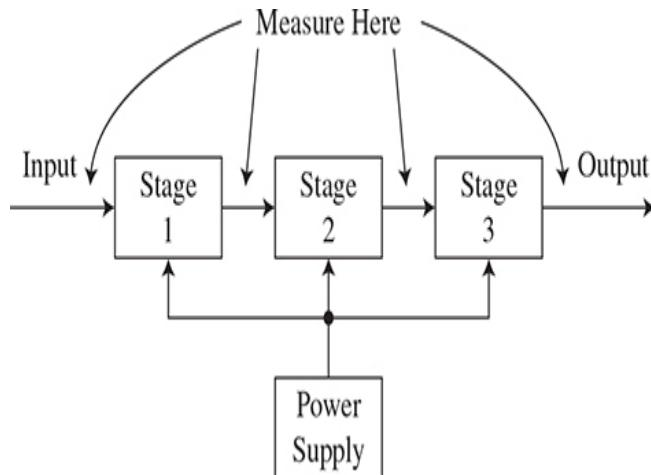
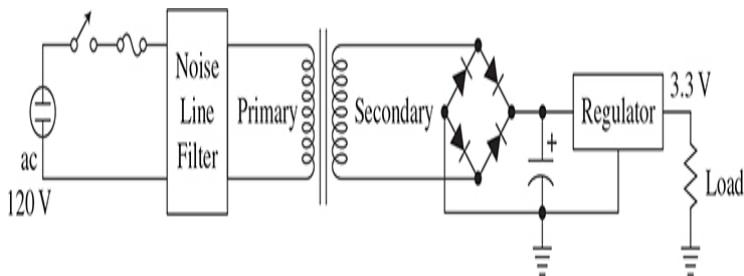

Figure 15.1 A block diagram illustrating the signal tracing process of isolating a bad stage or circuit.
Figure 15.2 A standard line operated ac-dc power supply with an IC regulator.
7. If your circuit has multiple stages, trace a signal through them stage by stage. See Fig. 15.1. Check for an input and then the output of each stage. The bad stage is the one with no or incorrect output. Separate the various stages. Isolate them so you can test them individually.
Refer to Fig. 15.2. This shows a common dc power supply. It does not seem to be working. What is the procedure to find the problem? Using the steps outlined earlier, here is how it is done.
5. If your circuit has multiple stages, trace a signal through them stage by stage. Refer back to Fig. 15.1. Now refer to Fig. 15.2. The output comes from the IC voltage regulator. If it is not there, check for an input to the IC. If you have an input to the regulator but no output, the problem is most likely a bad regulator IC. Replace the IC and retest.